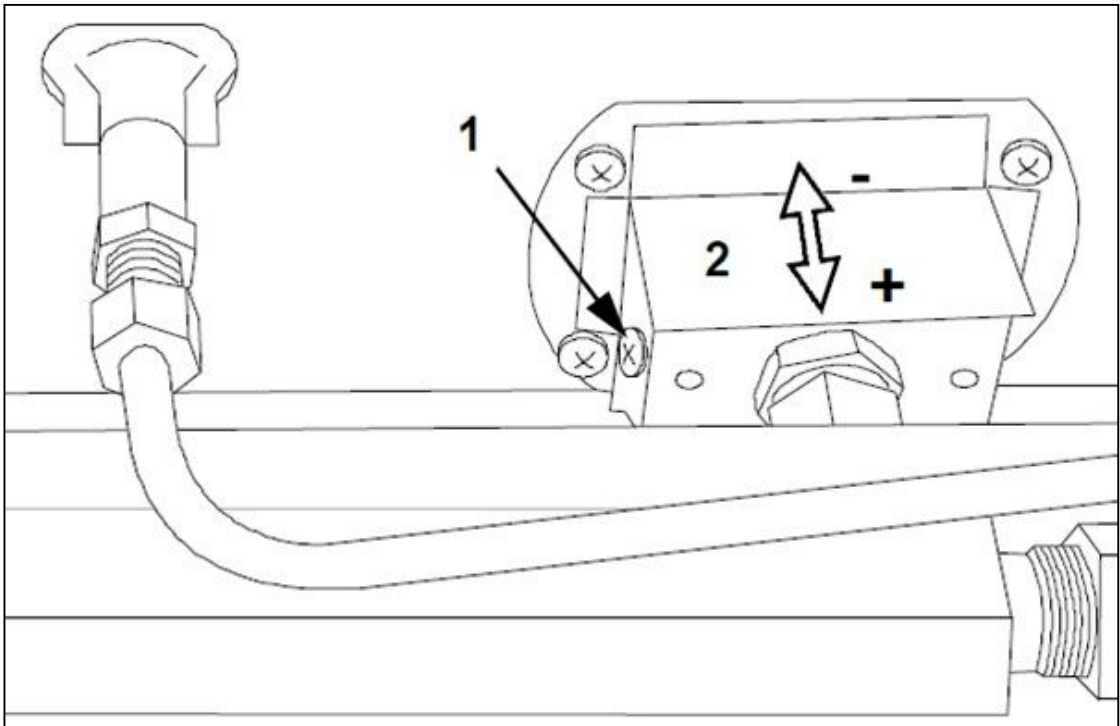

FIG.9
Unscrew the front panel (fig.3-ref.2) remove the air damper (fig.9-ref.1/2) to see and reach the injectors. Unscrew the injectors and replace them with those indicated in the technical data table for the oven model purchased.
Loosen the screw (fig.9-ref.1) to make, slide, in the special knob the air opening of the burner (fig.9-ref.2). once the adjustment is made, screw to fix the part.